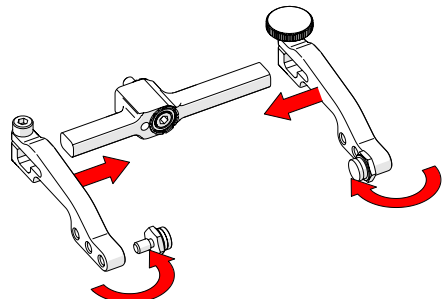

Fig. 51 - Attach arms & move buttons
5. Place the pivot buttons on the inside of the probe holder arms (Fig. 51) using a 3/8 in wrench (Fig. 16).